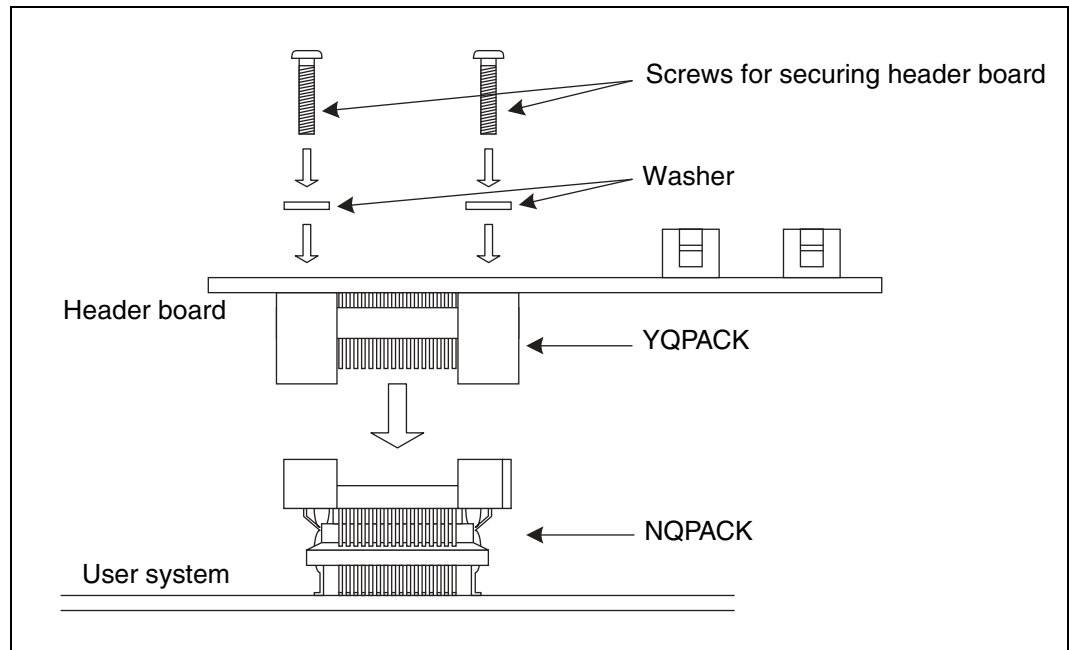

Figure 4 Header board connection
2. Insert each screw for securing header board in each of the four drilled holes on the header board through a washer, and then first tighten the screws in opposing corners followed by the two remaining screws (see Figure 4) .